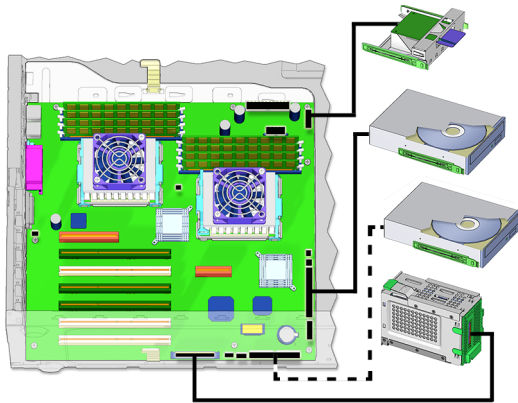

FIGURE 11-37 Disconnecting Interface Cables
9. Disconnect the interface cables (FIGURE 11-37).